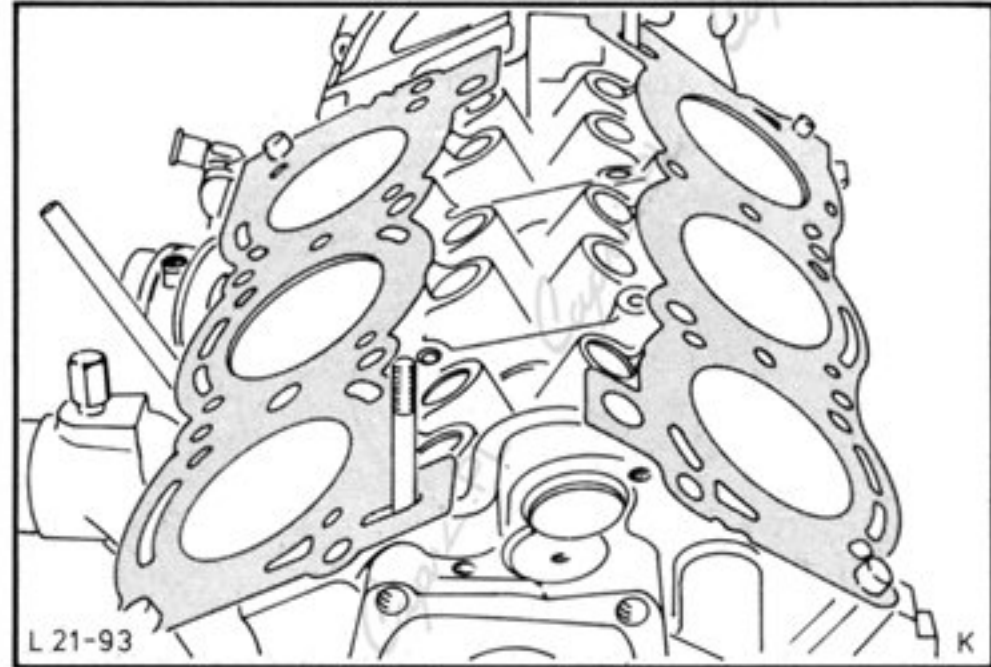

Fig.67. Position cylinder head gaskets.
62. Position cylinder head gaskets over guide bushes on cylinder block, Fig.67. Left-hand and right-hand cylinder head gaskets are different.